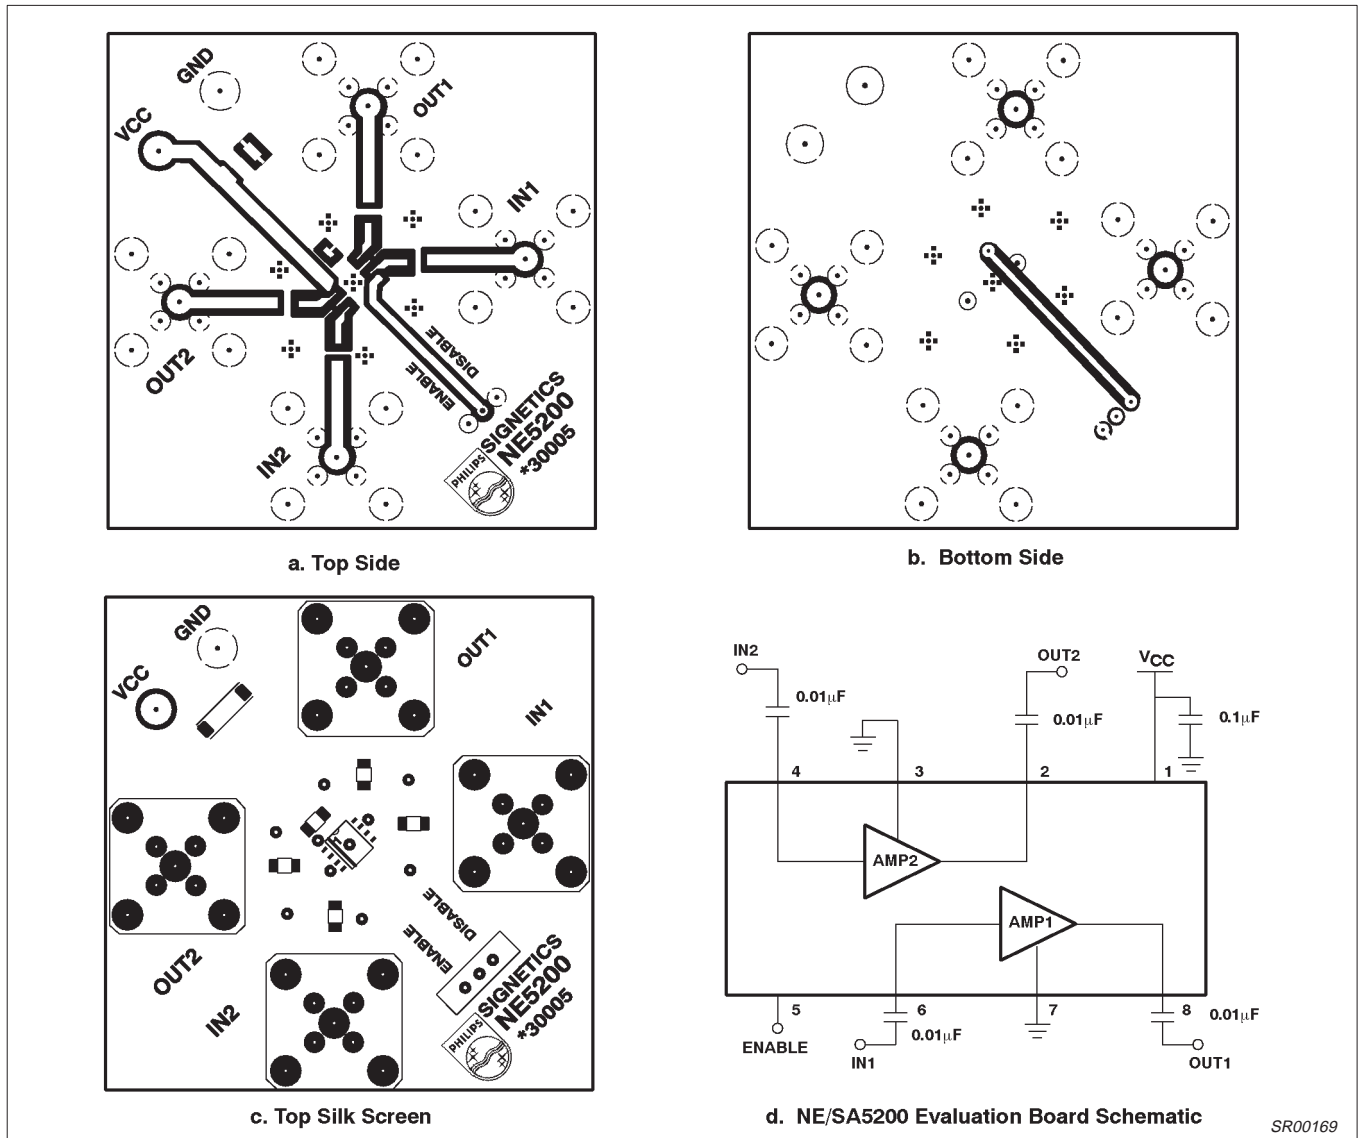

Figure 4. Printed Circuit Board Layout of the SA5200 Evaluation Board
- All measurements include the effects of the SA5200 Evaluation Board (see Figure 4). Measurement system impedance is 50 Ω .